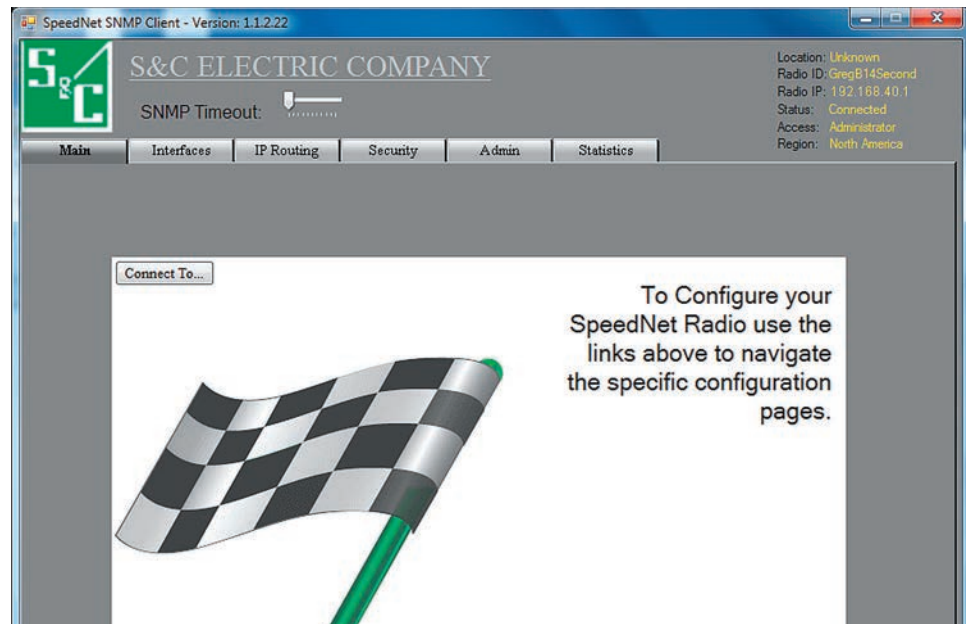

Figure 33. Main screen for SpeedNet configuration.
STEP 11. The *Main* screen will open, as shown in Figure 33. Click on the the **Interfaces** tab.